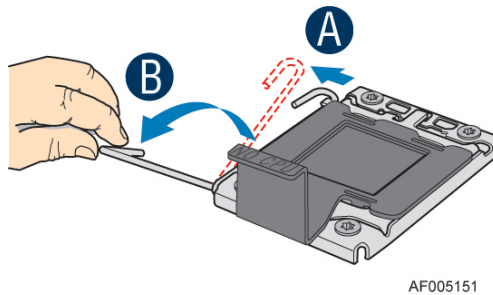

Figure 38. Installing Processor – Open the Socket Lever
2. Open the socket lever, see Figure 38.